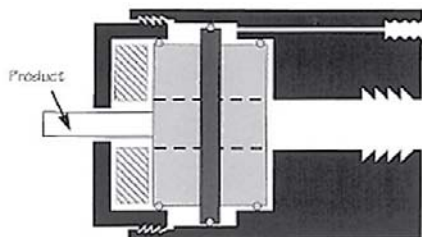

Figure 2
2. Clamp pressure is typically set with a regulator mounted on the tester’s back. This separate regulator controls the pilot air supplied to the PrexSeal. (Figure 2)